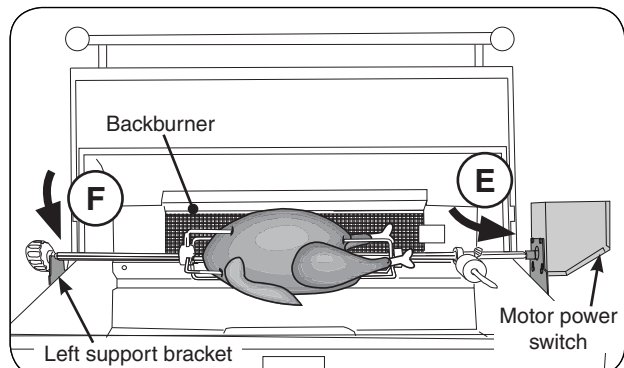

Fig. 32-4 Attach Rotisserie rod to motor
10. Insert the pointed-end of the rod into the motor drive socket (see Fig. 32-4, E). Then rest rod groove (next to the knob) into the left support bracket (see Fig. 32-4, F).